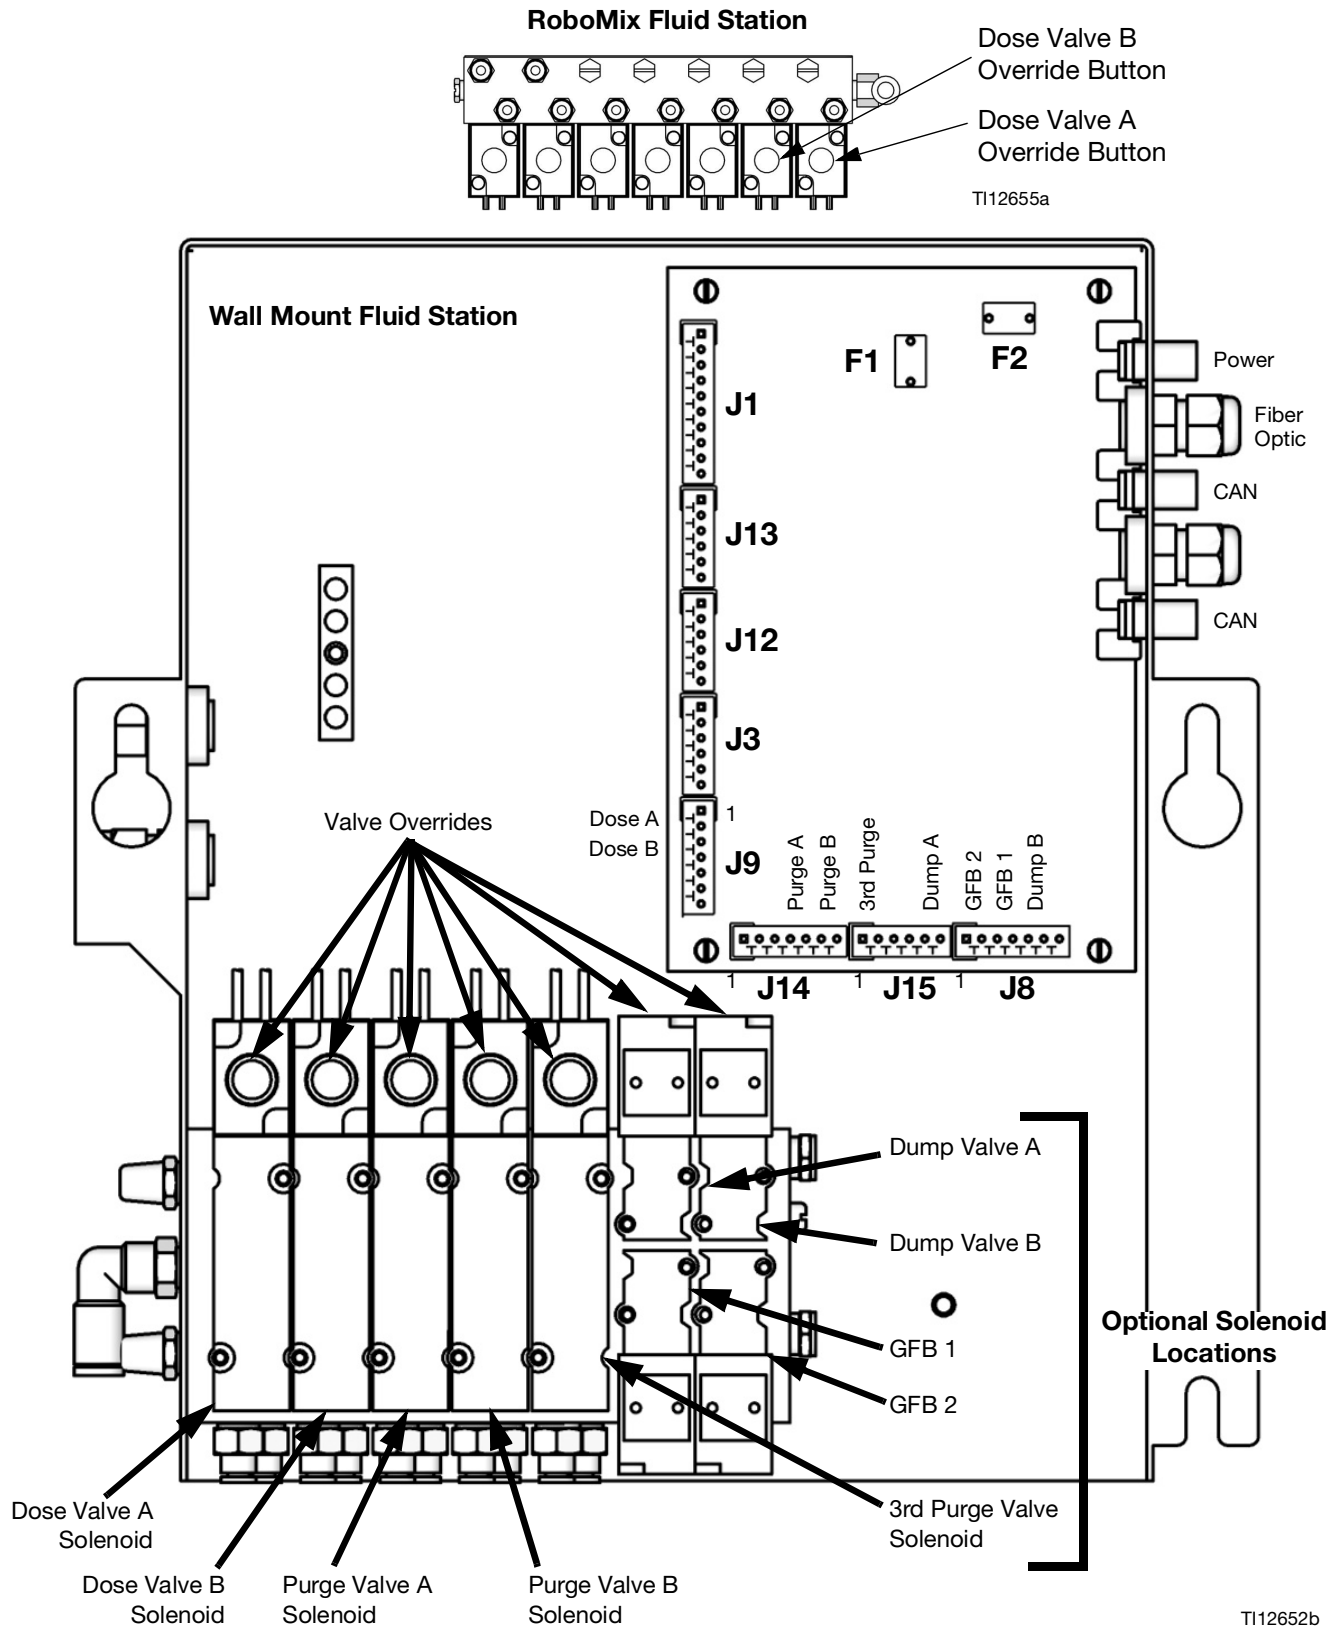

FIG. 5: Fluid Station Board and Solenoids
2. With the gun triggered, push the manual override on the A and B dose valve solenoids to relieve pressure. See FIG. 5.
5. With the gun triggered, push the manual override on the A and B purge valve solenoids to relieve air and solvent pressure. See FIG. 5. Verify that solvent pressure is reduced to 0.
3. Press and hold the dump valve A solenoid override, FIG. 5.
5. Press and hold the dump valve B solenoid override, FIG. 5.
7. Press and hold the dump valve A solenoid override, FIG. 5.
9. Press and hold the dump valve B solenoid override, FIG. 5.
3. Solenoid failure	<p>Manually operate the valves by removing the Fluid Station cover and pressing and releasing solenoid valve override buttons. FIG. 5.</p> <p>Use the control board diagnostics to check the signals. If signals do not occur correctly, go to Cause 4.</p> <p>Valves should snap open and shut quickly. If the valves actuate slowly, it could be caused by:</p> <ul style="list-style-type: none"> • Air pressure to the valve actuators is too low. See Cause 1. • Solenoid is clogged. Make sure air supply has 5 micron filter installed. • Something is restricting the solenoid or tubing. Check for air output from air line for corresponding solenoid when valve is actuated. Clear restriction. • A dose valve is turned in too far. See ProMix 2KS Operation manual for settings. • Fluid pressure is high and air pressure is low. • Fluid seal in valve has failed. See corresponding valve manual for repair information.